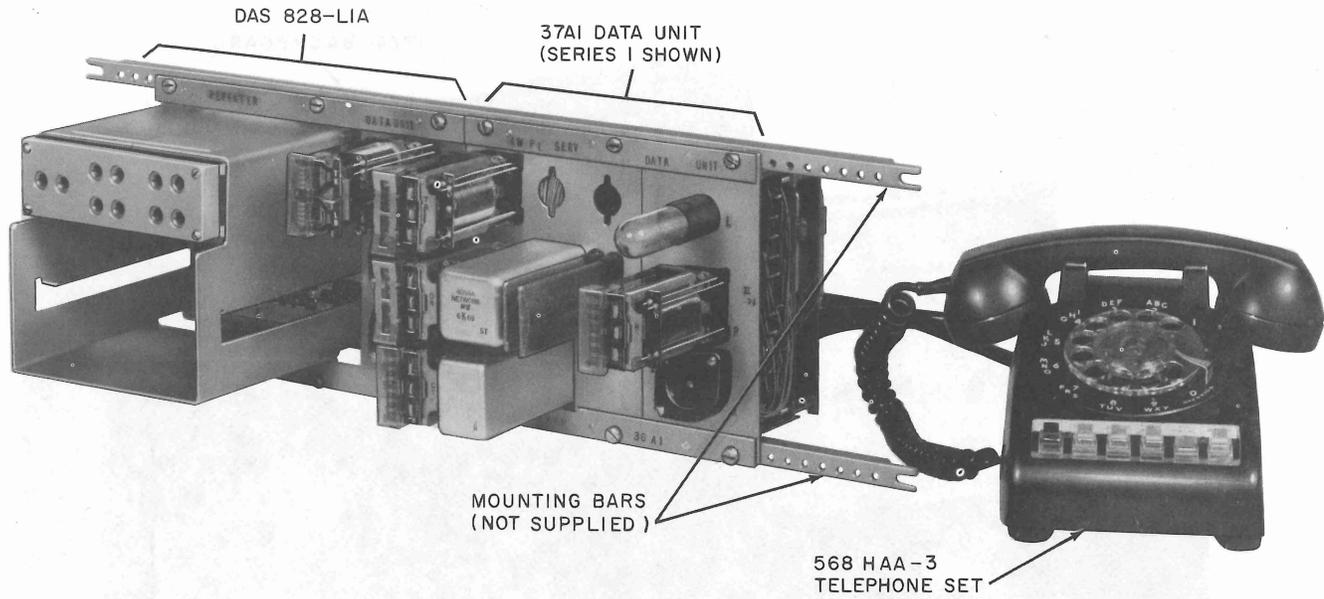

Fig. 4—Front View of DAS 828A-L1/2
2.07 DAS 828-L1/2, shown in Fig. 4, consists of a basic 828A-L1, a 37A1 data unit, and a 568HAA-3 key telephone set. The units are prewired and tested for 4W PL data/alternate voice service.